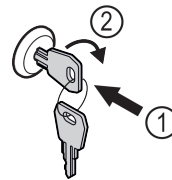

Fig. 170 Example illustration
- ▶ Insert key Fig. 170 (1).
- ▶ Turn key clockwise by 90° Fig. 170 (2).